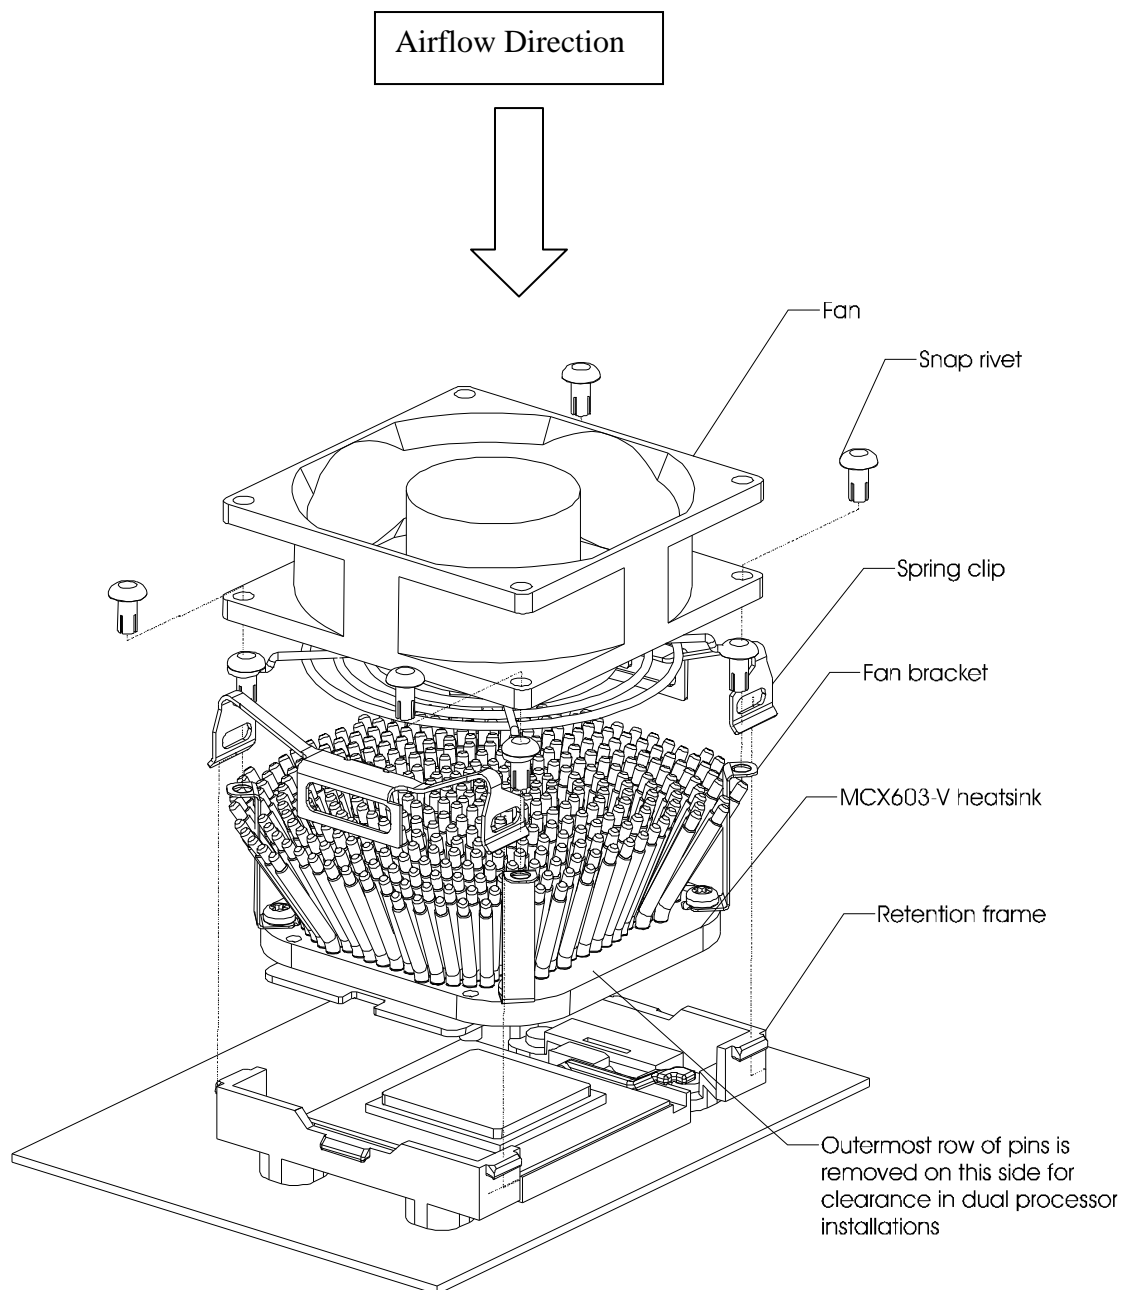

Figure 2
- Install the standoffs through the holes, using fiber washers and locknuts as shown in figure 2